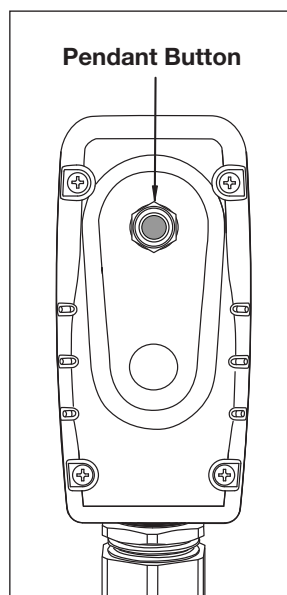

Figure 6, Pendant
5.3 Pendant (See Figure 6)
6. Press and hold the pendant button. See Figure 6. The pump motor will start and pressure will begin building immediately.
5. Press and hold the pendant button. See Figure 6. The pump motor will start and pressure will begin building immediately.